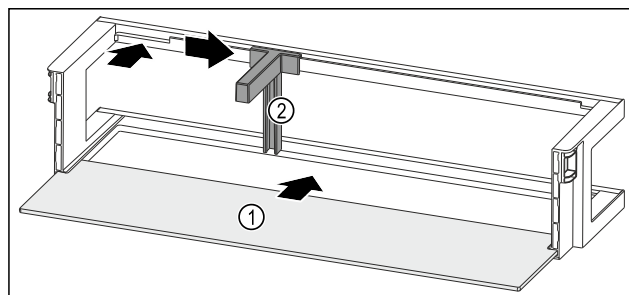

Fig. 216 Door rack with shelf
- Push the shelf Fig. 216 (1) into the side recesses.
- Insert the bottle holder Fig. 216 (2) in the recess.
- Push the bottle holder Fig. 216 (2) to the desired position to the side.